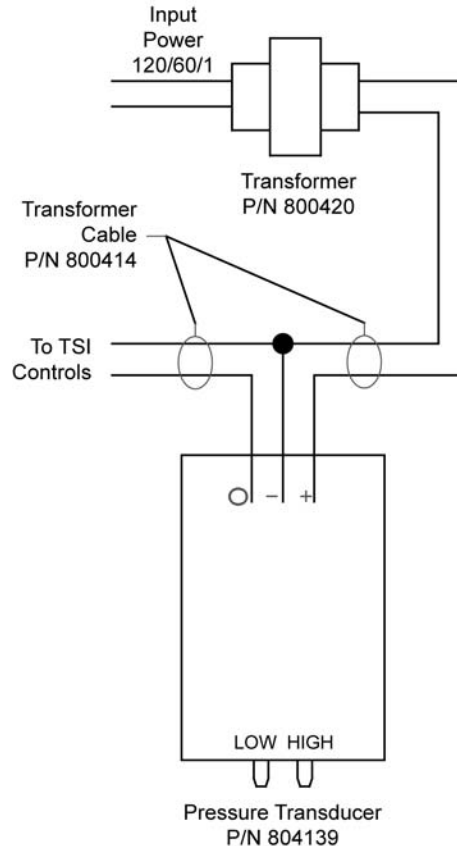

Figure 5: Transducer Wiring
9. Refer to the wiring diagram for proper transducer wiring (Figure 5). The cable is terminated at the pressure transducer and at the TSI controller or monitor.
Wire the transducer to the FLOW INPUT terminals on the TSI controller, per Figure 5. Refer to the Installation Instructions for the TSI controller to determine the correct terminals.